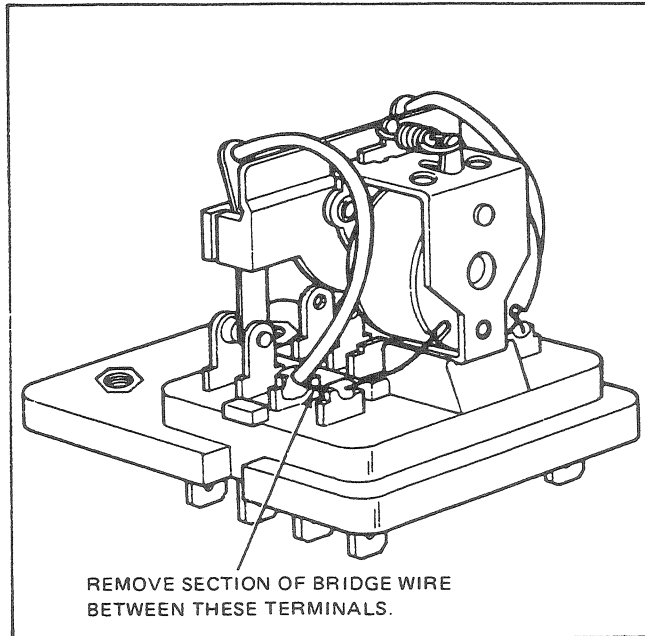

Fig. 20 – Article No. 117
2. Remove the bridge wire connecting the two (2) ground terminals, (see Fig. 20) and replace the cover.